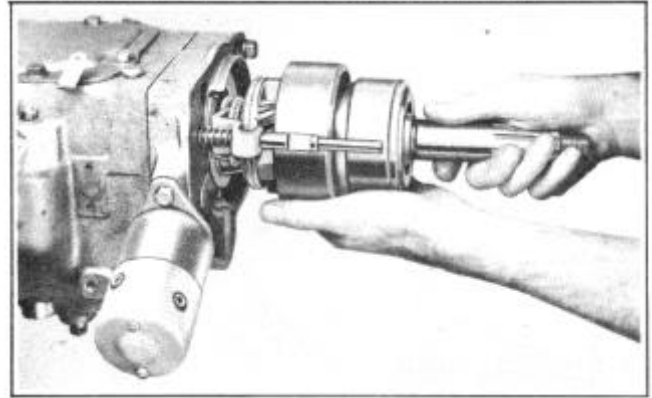

FIGURE 12
2. Remove the overdrive main-shaft and ring gear assembly, Figure 12, (Catch the rollers as they drop out of the free wheeling cam roller retainer.)